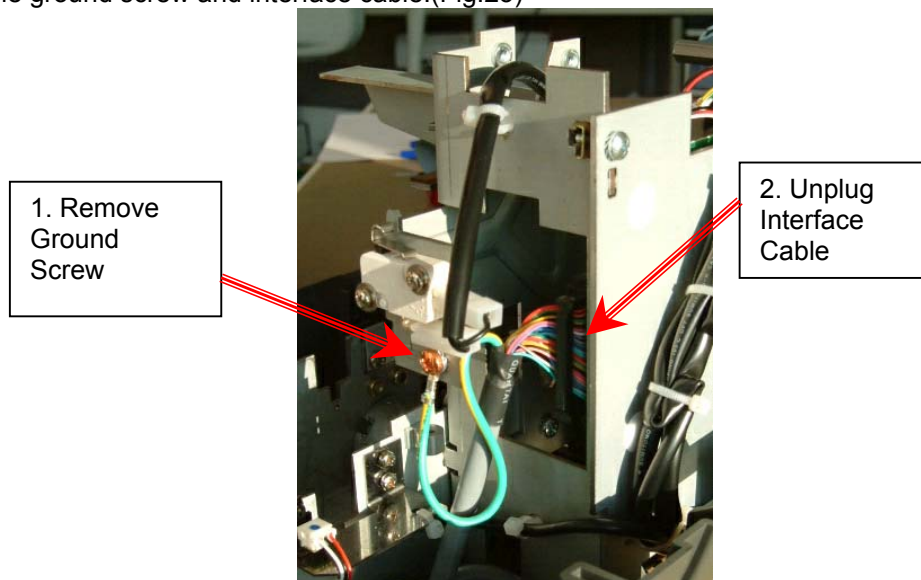

Fig.23
- (A) Disassembly upper letter transport
- (B) Letter Transport Table with Sealer
- Remove the ground screw and interface cable.(Fig.23)
- Remove the interface cable (See Fig.23 and Fig.24)